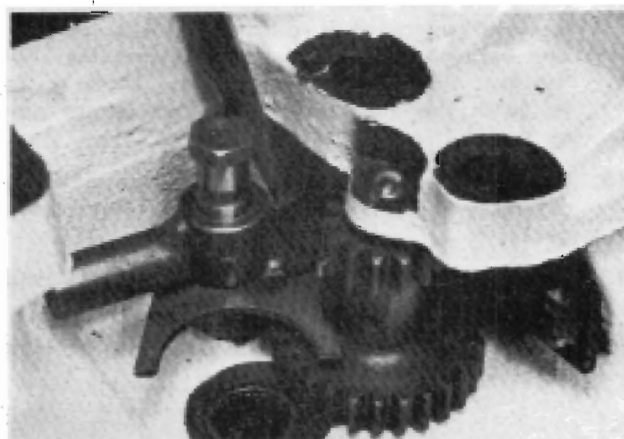

FIGURE 11
4. Position the detent bolt and shift fork so that the slot of the high and low range shift lever engages the shift fork (Figure 11) and thread the bolt in place until it seats securely against the shoulder. Torque the detent bolt to 12-17 ft. lbs.